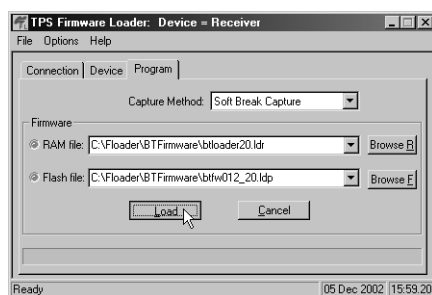

Figure 4-23. Program Tab Settings
3. Select the **Program** tab and set the Capture Method to Soft Break Capture (recommended) (Figure 4-23).
4. Browse for and select the Bluetooth module's RAM file and Flash file (Figure 4-23).